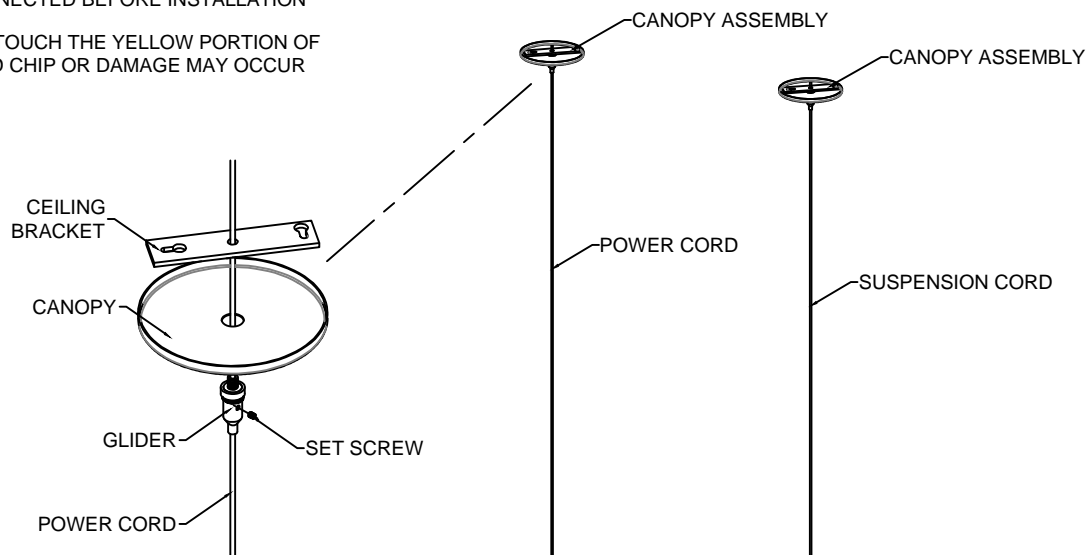

FIGURE 6
1. Mount the ceiling bracket to junction box "NOT SUPPLIED" according to the structure of ceiling - see FIGURE 6